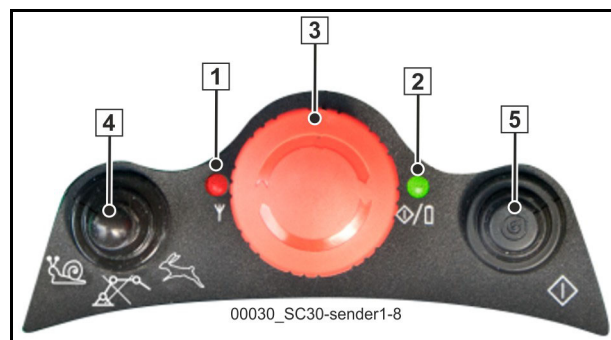

Fig. 410
6. Actuate button 5 (**Fig. 410**) on the transmitter within 45 seconds and hold for 10 seconds until the buzzer in the transmitter sounds.
8. Release button (5) (**Fig. 410**) and wait until the buzzer produces 5 beeps in quick succession and the transmitter is switched off automatically.
9. Switch on the transmitter again with button (5).